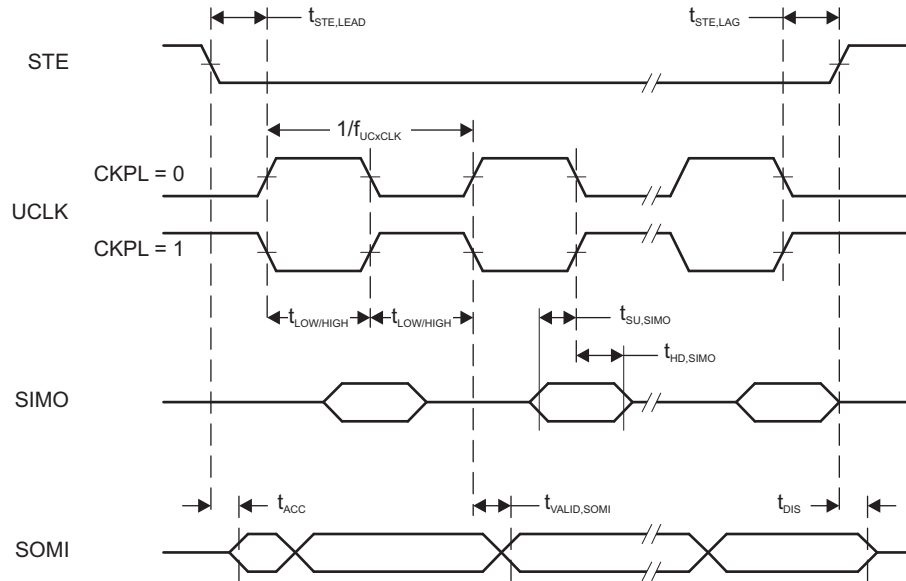
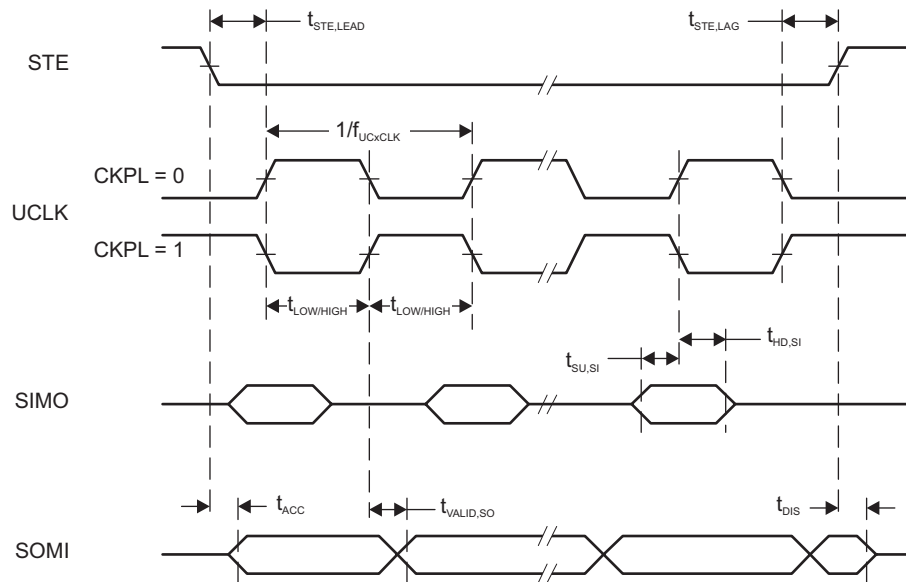

Figure 5-14. SPI Slave Mode, CKPH = 0
Figure 5-15. SPI Slave Mode, CKPH = 1
- (2) Specifies the time to drive the next valid data to the SOMI output after the output changing UCLK clock edge. See the timing diagrams in Figure 5-14 and Figure 5-15.
- (3) Specifies how long data on the SOMI output is valid after the output changing UCLK clock edge. See the timing diagrams in Figure 5-14 and Figure 5-15.